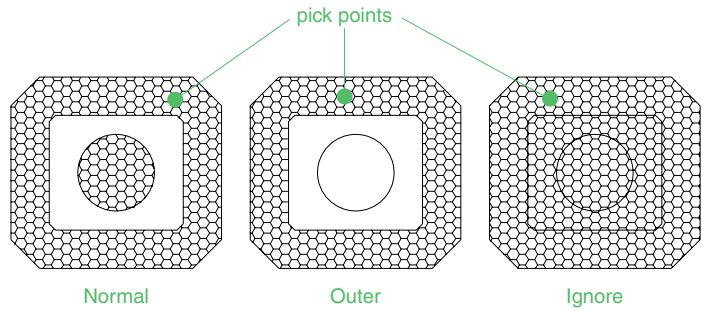

Fig. 8.12 Fifth example – **Advanced** hatching
Fifth example – Advanced hatching (Fig. 8.12)
1. Construct a drawing which includes three outlines as shown in the left-hand drawing of Fig. 8.12 and copy it twice to produce three identical drawings.